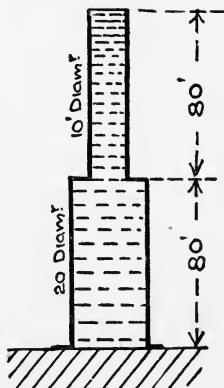

Fig. 2.
5. Fig. 2 illustrates a stand pipe filled with water. The pipe is constructed of $\frac{3}{4}$ inch steel plating. Consider a section 20 feet above the ground level and determine the longitudinal stress across this section and the hoop stress at this level.